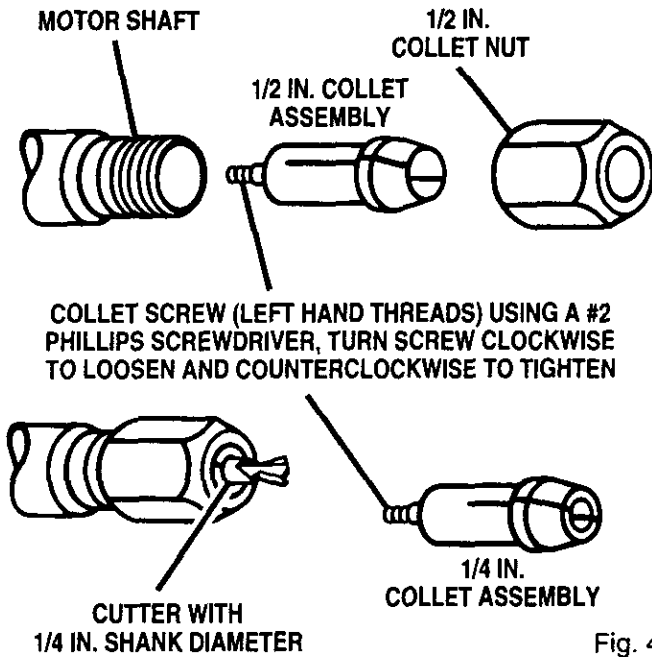

Fig. 4
- The 1/2 in. collet is machined to precision tolerances to fit cutters with 1/2 in. diameter shanks. A 1/4 in. collet assembly has also been provided with your router so that cutters with 1/4 in. shank bits can be used. See Figure 4.
Replace with the 1/4 in. collet assembly, securely tightening collet screw turning counterclockwise in collet to motor shaft, then reassemble 1/2 in. collet nut. See Figure 4.